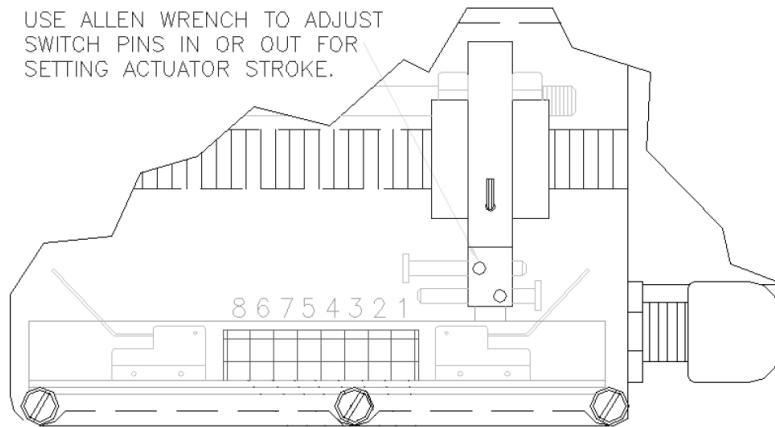

Figure 5
11. Check that the fully extended cable lines up with the throttle linkage. If it does not, remove the cover from the actuator by removing the 6 cover screws, loosen the Allen screw shown in Figure 5 and adjust the stop and retighten the Allen screw.